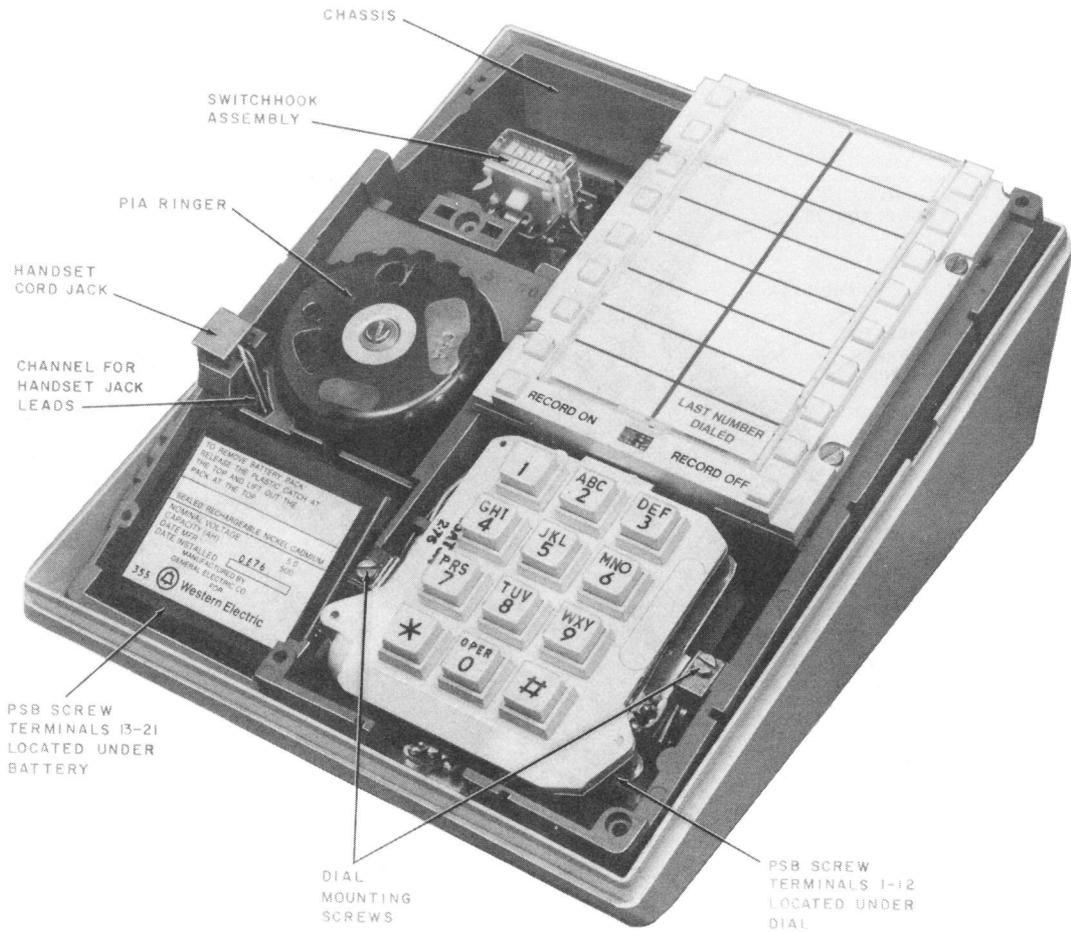
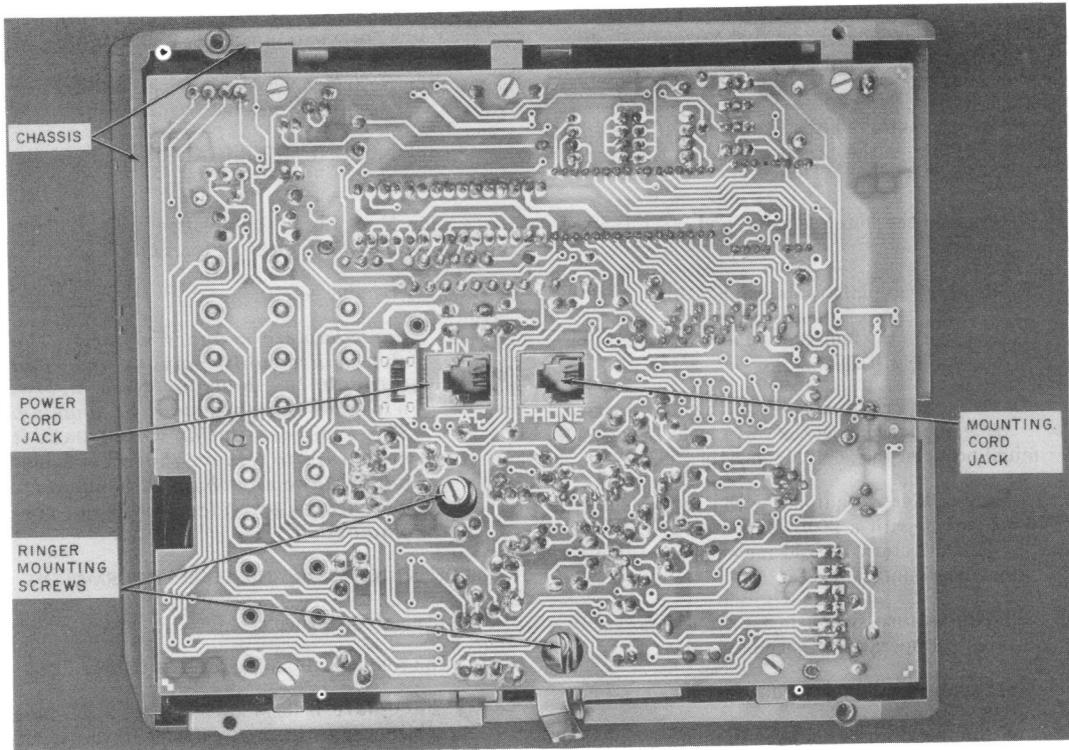

Fig. 5—2960A01M (MD) Telephone Set With Handset, Faceplate, Shield, and Upper Housing Removed
Fig. 9—Bottom View of Power Supply Board (Lower Housing Removed)
- **Battery** snaps into a cavity on the top side and left front corner of the chassis (Fig. 5).
- **Ringer** is fastened by two screws to bosses on the bottom of the chassis (Fig. 9) and rests in a cavity just to the rear of the battery cavity (Fig. 5).
- **Handset Jack** slides into a cavity on the top left side wall of the chassis adjacent to the ringer and battery (Fig. 5).
- **Switchhook Assembly** is soldered to power supply printed wiring board and located at left-rear corner of power supply board (PSB) (Fig. 5).
- **Power Supply Printed Wiring Board Assembly** is fastened by six screws to bosses on the bottom of the chassis (Fig. 9).
- **Power Supply Printed Wiring Board Screw Terminal Areas** (Fig. 5 and 6).
- **Chassis** is main structural member to which other component assemblies are fastened, including the upper and lower housings (Fig. 5 and 9).